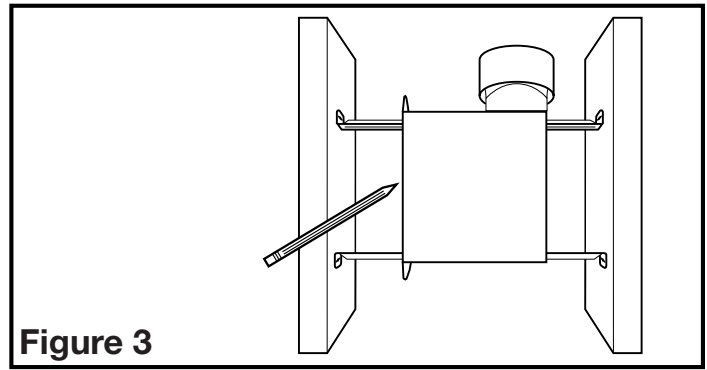

Figure 3
1. Set housing in position between the joist and trace an outline onto the ceiling material (**Figure 3**). Set housing aside and cut opening, being careful not to cut or damage any electrical or other hidden utilities. Install the rails on the housing and position the housing in the previously cut hole so that it is flush with the finished ceiling. Secure the ends of the rails to the joists (**Figure 2**).